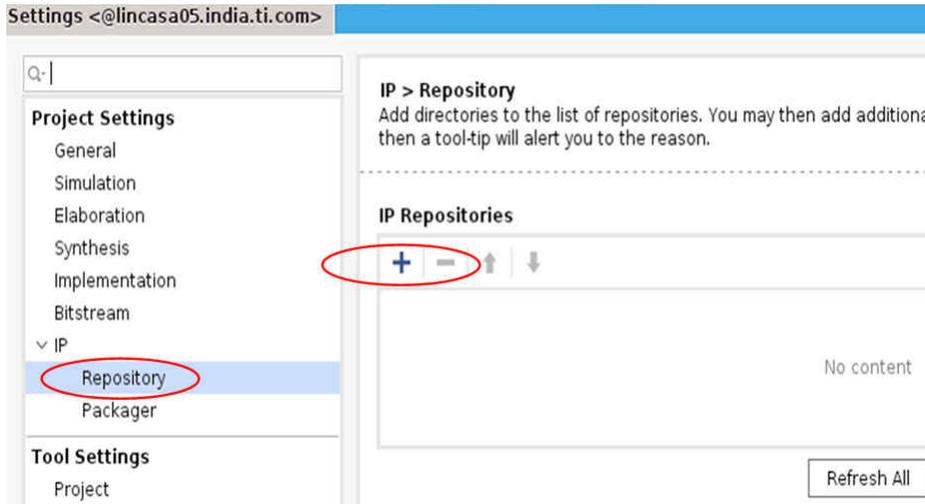

Figure 6-2. Adding IP Repository
2. Click the + icon to add the location of TI provided IP (see Figure 6-2).